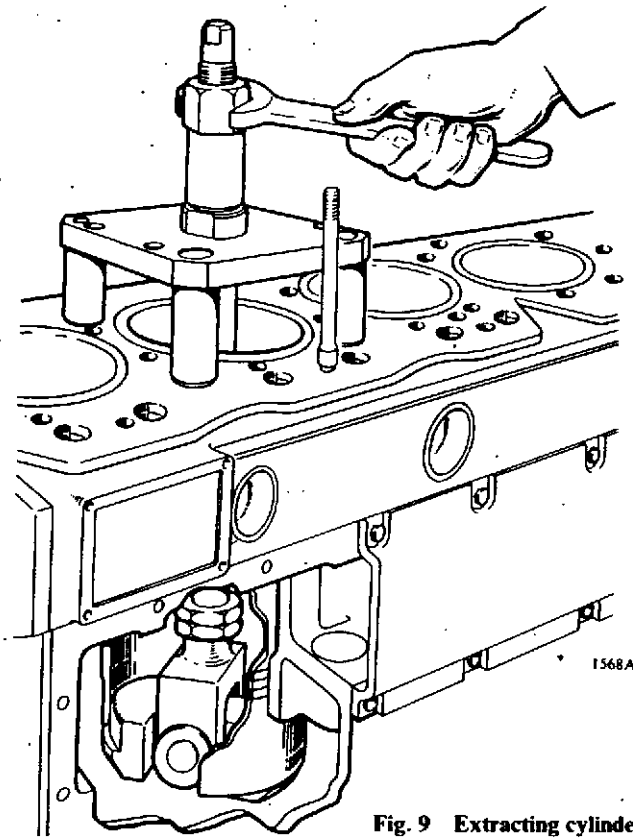

Fig. 9 Extracting cylinder liner
30. Turn engine vertical and extract cylinder liners, using tool GA.629 (fig. 9). Protect liners against damage whilst out of crankcase.